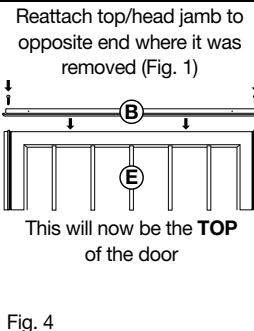

Fig. 4
Fig. 4 - Move top/head jamb to what is now the top of the door. Tighten the screws for the hinges and pre-hang clips. Reinstall top/head jamb (B) with existing screws.